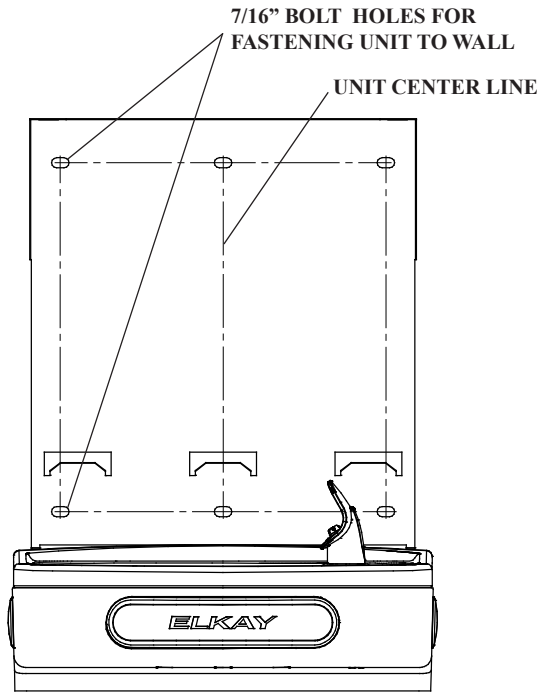

Fig. 5
- 4) Install wall mounting plate to wall using six (6) 7/16" obround mounting holes (mounting bolts not included) (See FIG. 5). Use appropriate fasteners for your wall type.
- 10) With the power cord, wire(s), and waterline through hole on top of water cooler place Bottle Filler on the three (3) angled tabs protruding from the wall mounting plate, installed on wall (See Fig. 5). Make sure rubber Drain Mat is installed properly on bottom of Bottle filler.
- 11) once Bottle Filler is installed on wall plate tabs, drain mat, water line, wire(s) and power cord are installed properly, push top of Bottle Filler toward wall and line up top cover two (2) holes.